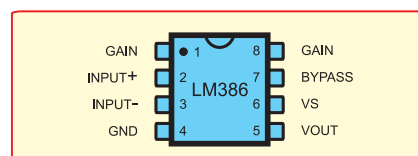

Fig.6.3. Pinout information for the LM386 audio amp and the 4040 frequency divider ICs
- The output signal from pin 5 of IC3 is the input signal from IC2, the frequency of the bat's sound, divided by 16 as shown in pinout diagram Fig. 6.3. Using the diagram as a guide, you might like to experiment with other outputs which provide divisions by more or less than 16. This will have an effect on the pitch of the 'clicks' heard.